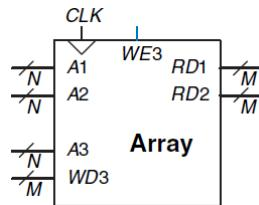
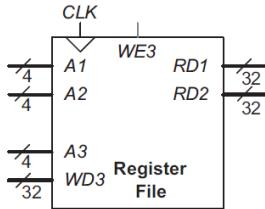

Figure 5.47 Three-ported memory
Figure 5.52  $16 \times 32$  register file with two read ports and one write port
**Multiported** memories can access several addresses **simultaneously**. Figure 5.47 shows a three-ported memory with two read ports and one write port. Port 1 reads the data from address  $A_1$  onto the read data output  $RD_1$ . Port 2 reads the data from address  $A_2$  onto  $RD_2$ . Port 3 writes the data from the write data input  $WD_3$  into address  $A_3$  on the rising edge of the clock if the write enable  $WE_3$  is asserted.
Figure 5.52 shows a **16-register**  $\times$  **32-bit** three-ported register file built from a **three**-ported memory similar to that of Figure 5.47. The register file has two read ports ( $A_1/RD_1$  and  $A_2/RD_2$ ) and one write port ( $A_3/WD_3$ ). The 4-bit addresses,  $A_1$ ,  $A_2$ , and  $A_3$ , can each access all  $2^4 = 16$  registers. So, two registers can be read and one register written simultaneously.